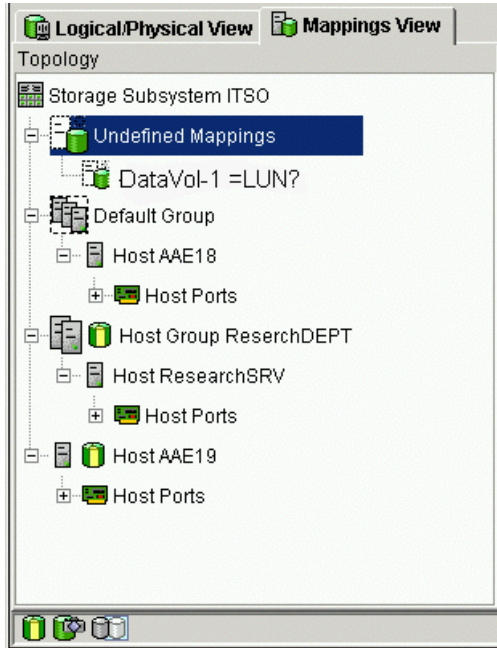

Figure 5-19 Undefined FlashCopy Disk
1. Open the Mappings View (Figure 5-19) of the Management window. The newly create FlashCopy logical drive appears in the undefined mapping section.